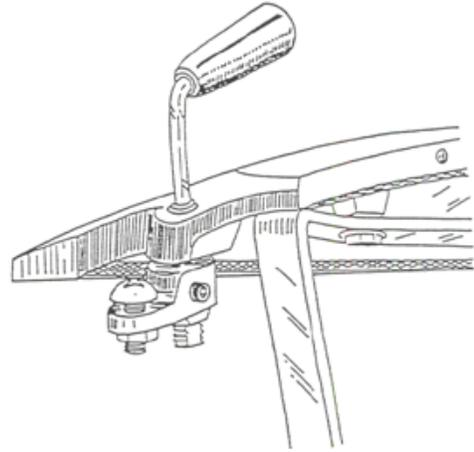

**Fig. 12** Secondary air probe installation
24. Install the secondary probe assembly see **Fig. 12** for positioning guidance.